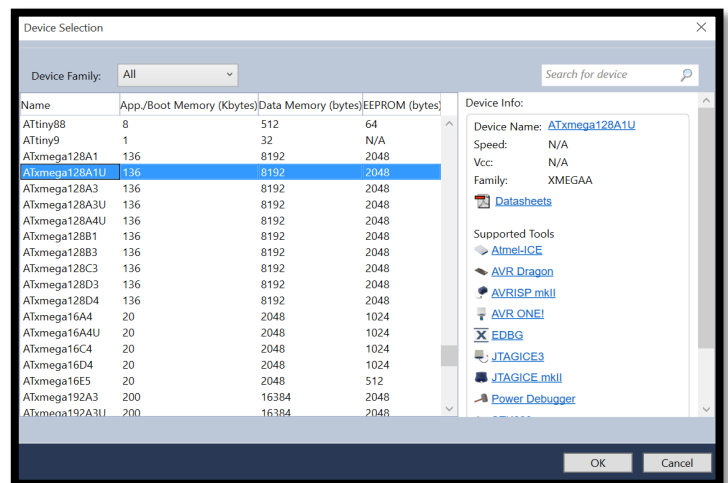

Figure 2: Choosing the device type
4. In the *Device Selection* window that automatically opens, select the correct device and click *OK*. For the entirety of this semester, we will be using the ATxmega128A1U (see *Figure 2*).